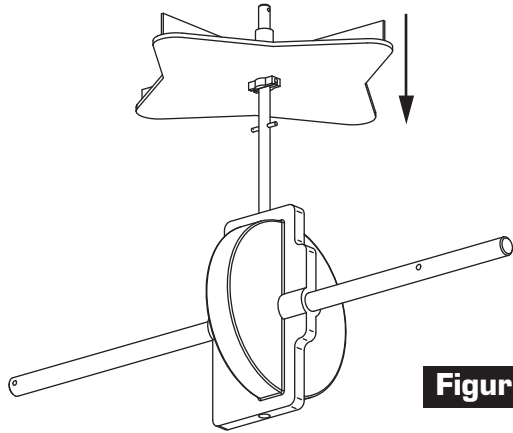

Figure 1
1. Push Spreading Spinner onto Spinner Shaft as shown in Figure 1. Make sure Roll Pin in Spinner Shaft engages with slot in Spinner.